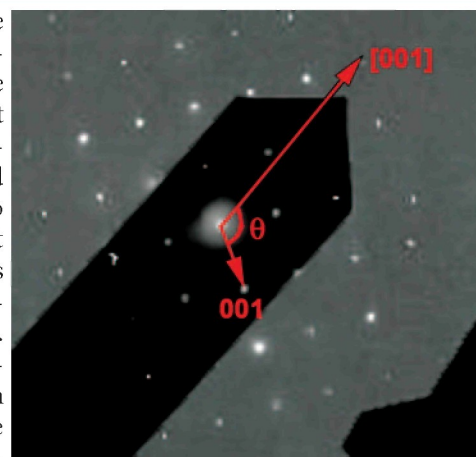

Fig. 6: Double exposure of the image and the electron diffraction pattern from a MoO3 crystal.
MoO3 crystals (which the adventurous can make themselves with ammonium molybdate smoke) can also be used for this calibration, as shown in Fig. 6. The (001) reflection corresponds to the long edge of the crystals [1]. A different relationship may exist for each magnification and camera constant combination, depending on the TEM. There's lots of interesting crystallography here concerning forbidden reflections and the like--see [2] or any other good materials science text.